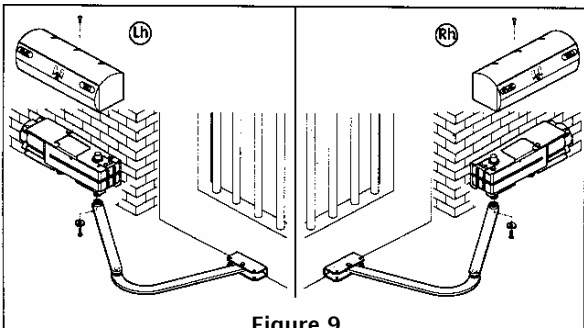

Figure 9
- \* Attach the articulated arm to the 390 Operator with the supplied screw and washer. Figure 9.
Figure 9 shows how to attach the articulated arm and operator cover to the operator.